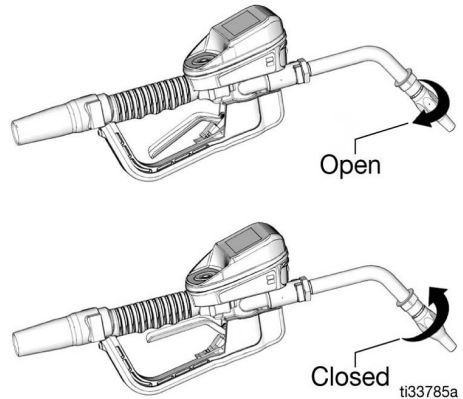

FIG. 5
- Open the nozzle: Rotate clockwise (FIG. 5)
- Close the nozzle: Rotate counter-clockwise (FIG. 5)